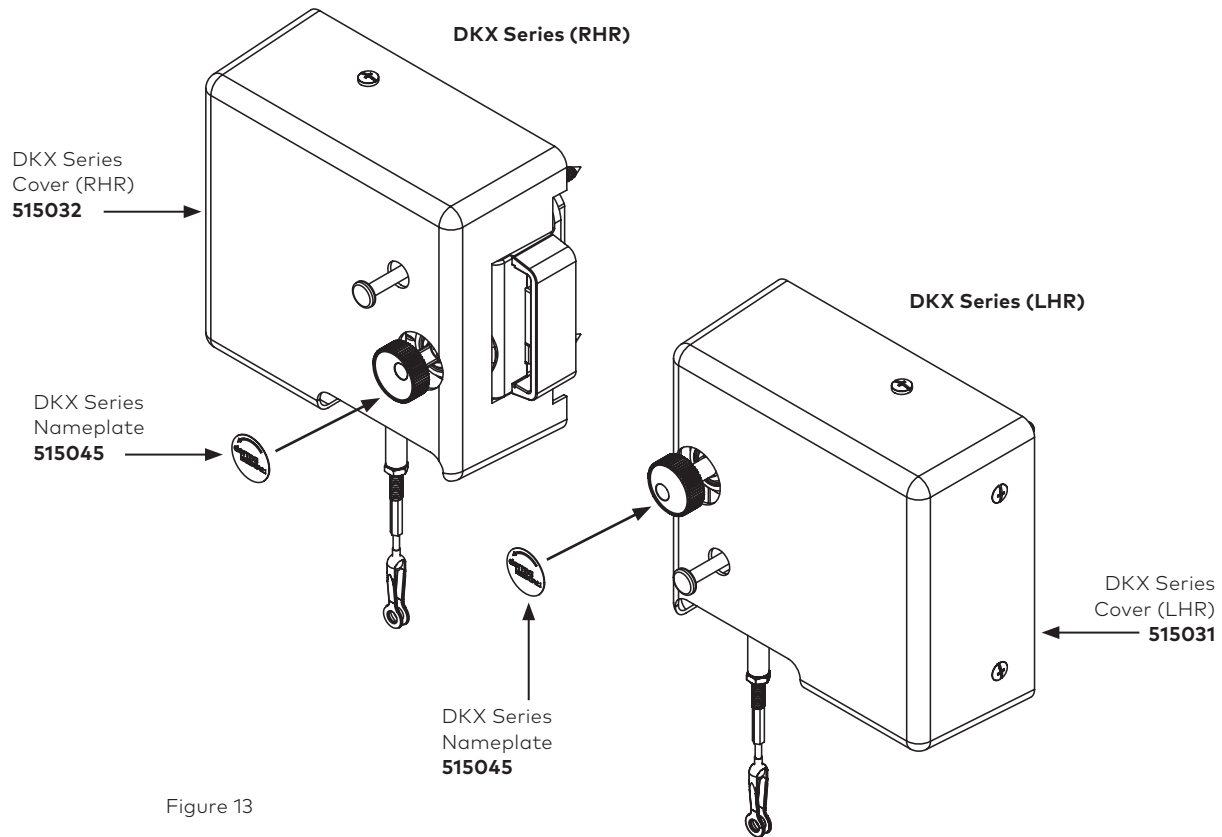

Figure 13
3. Secure the lock cover to the lock cover mounting brackets using four (4) #8-32 x 5/16" PHMS (105034) screws. See Figure 13.